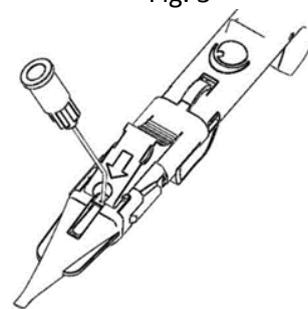

Fig. 4
7. Introduce the cannula (23G or bigger) of a syringe filled with viscoelastic material into the small aperture in front of the red stopper. Inject the viscoelastic material through the aperture as shown in Fig. 4. Filling the cartridge nozzle up halfway should suffice.